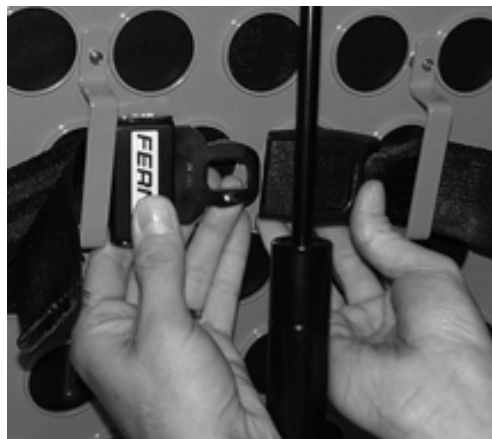

Figure 13 - Fastening the Pedi-Mate™ Buckle
3. Position the Pedi-Mate™ pad flat on the backrest with the black backrest straps out (see Figure 13).